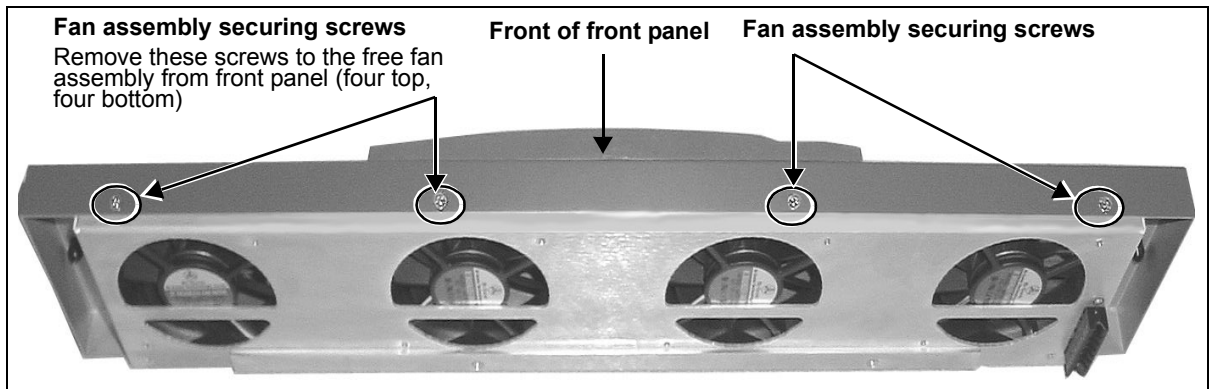

Figure 2-13. Removing the Fan Assembly from the Front Panel
3. Remove the screws on the top and bottom edges of the front panel that hold the fan assembly cover in place (see Figure 2-13).
7. Position a new fan over the assembly standoff, and then fasten the fan into place with the supplied screws (see Figure 2-13 on page 29).